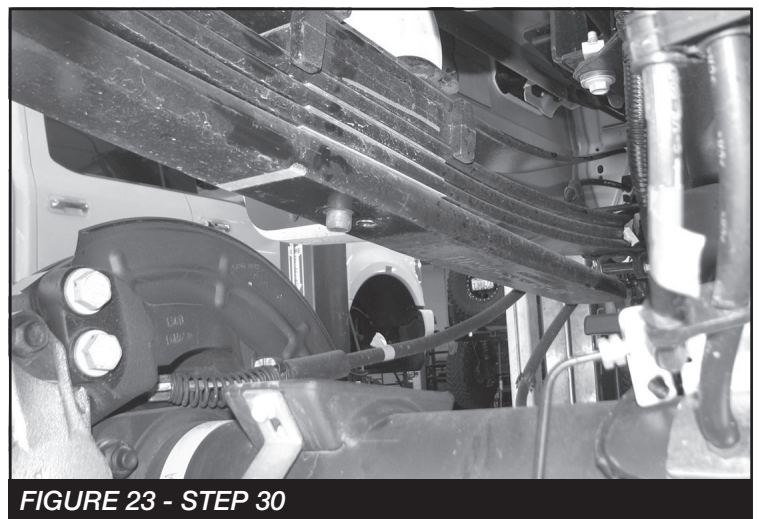

FIGURE 23 - STEP 30
30. Jack up the rear end of the vehicle and support the frame rails with jack stands. Release the parking brake at this time. Supporting the rear differential, remove the rear shock and u-bolts. Disconnect the sway bar end link from the sway bar then lower axle down and remove the blocks. Use care not to over extend the brake hose. **SEE FIGURE 23**